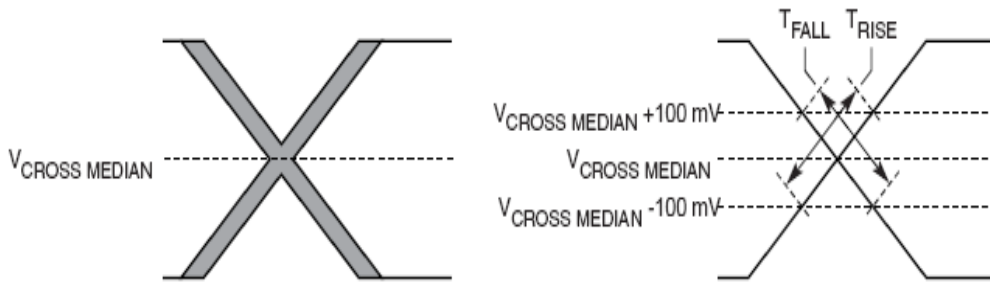

Figure 49. Single-Ended Measurement Points for Rise and Fall Time Matching
- Matching applies to rising edge for $\text{SD}_n\text{_REF_CLK}$ and falling edge rate for $\overline{\text{SD}_n\text{_REF_CLK}}$. It is measured using a 200 mV window centered on the median cross point where $\text{SD}_n\text{_REF_CLK}$ rising meets $\overline{\text{SD}_n\text{_REF_CLK}}$ falling. The median cross point is used to calculate the voltage thresholds that the oscilloscope uses for the edge rate calculations. The rise edge rate of $\text{SD}_n\text{_REF_CLK}$ should be compared to the fall edge rate of $\overline{\text{SD}_n\text{_REF_CLK}}$, the maximum allowed difference should not exceed 20% of the slowest edge rate. See Figure 49.